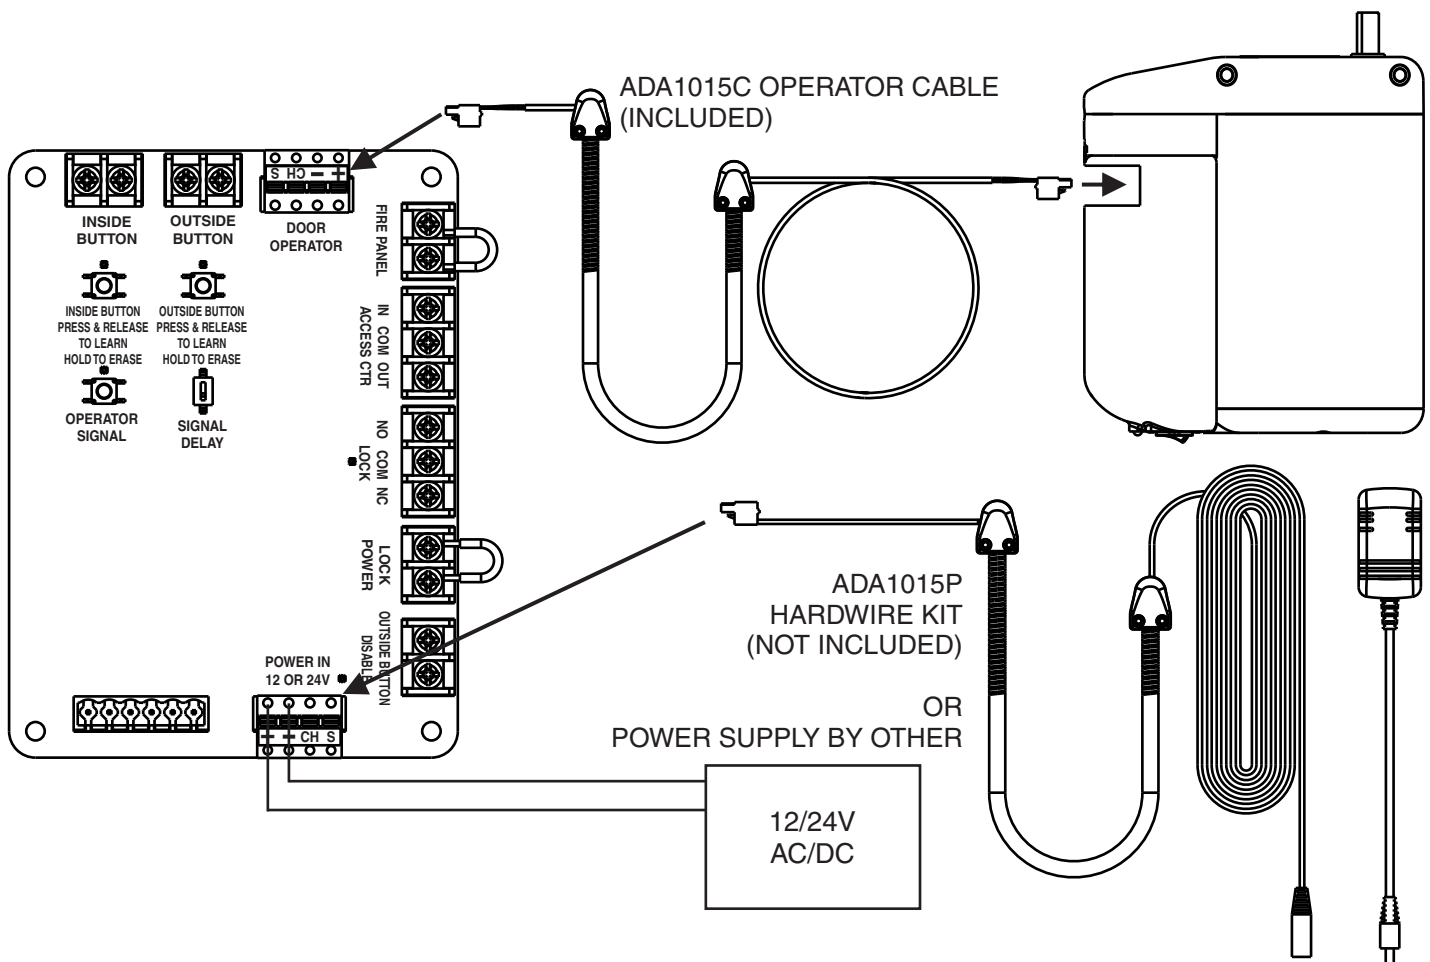

Figure 1
2. **Provide power to the WIM.** (Refer to Figure 1)